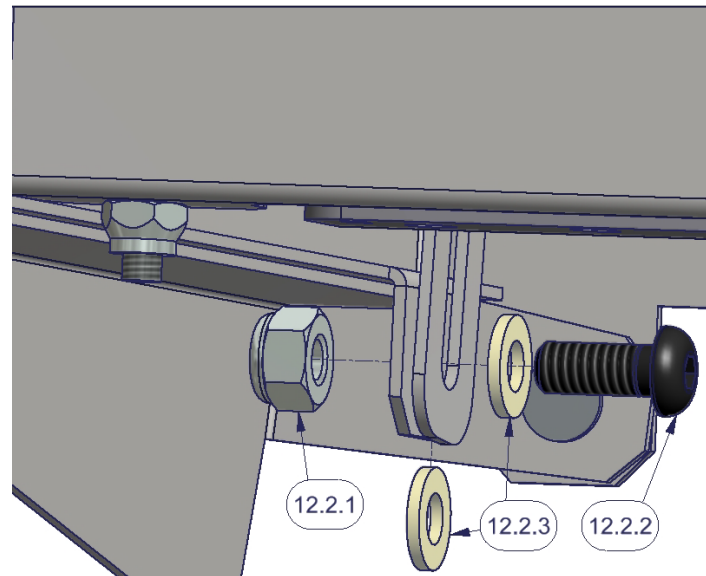

FIGURE 4
8. Assemble the lid support hardware, as shown in Figure 4. Tighten the hardware in small increments so that the lid remains supported as you require (usually self-supporting at a 45 degree lid angle).
NOTE: Second nylon washer (#12.2.3 shown below assembly in Figure 4) slips between moving slotted part, and stationary body.